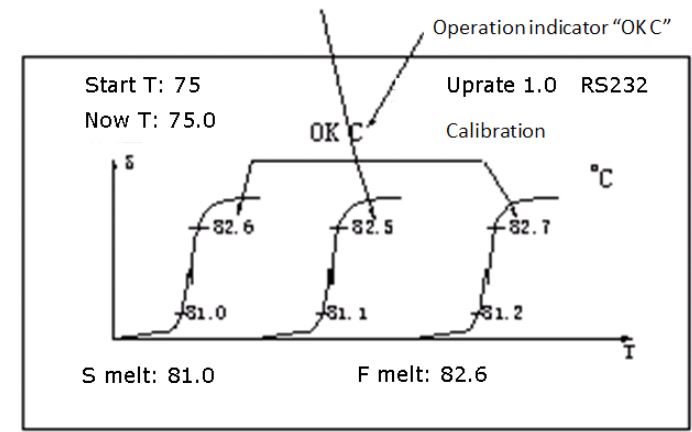

Figure 15
- 3) If the melting range of three curves are close, i.e., the reproducibility is good, the measurement can be deemed valid. (See Figure 15)